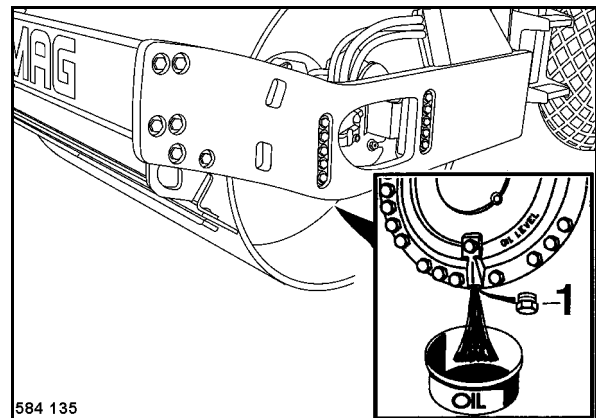

Fig. 163
- Move the drum, until the drain plug 1 (Fig. 163) is in bottom position.